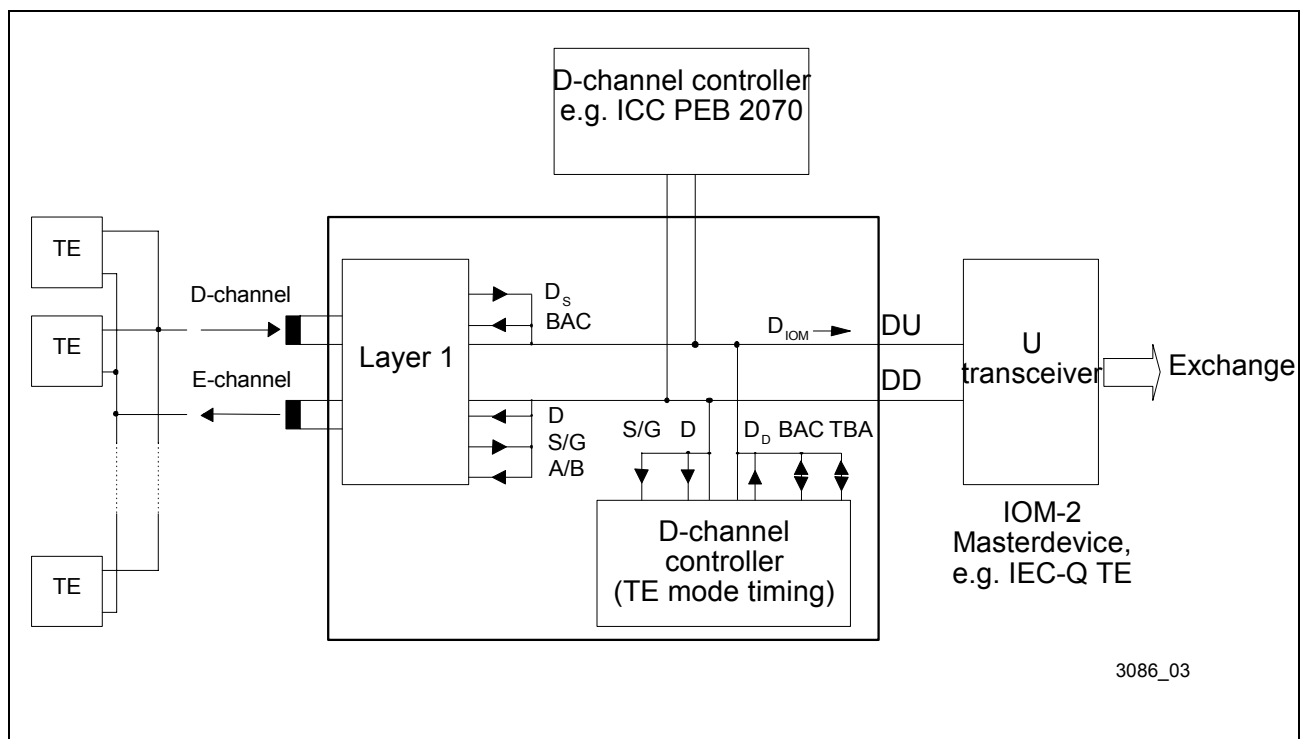

**Figure 69 Data Flow for Collision Resolution Procedure in Intelligent NT**
**Figure 69** illustrates the signal flow in an intelligent NT and the algorithm of the D-channel priority handler on IOM-2 implemented in the ISAC-SX.